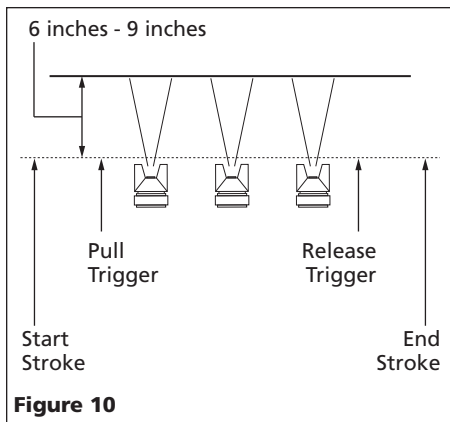

Figure 10
**THE TRIGGER** and release the trigger **BEFORE STOPPING GUN MOVEMENT** at the end of the stroke. This procedure will feather (blend) each stroke with the next without showing overlap or unevenness (See Figure 10).